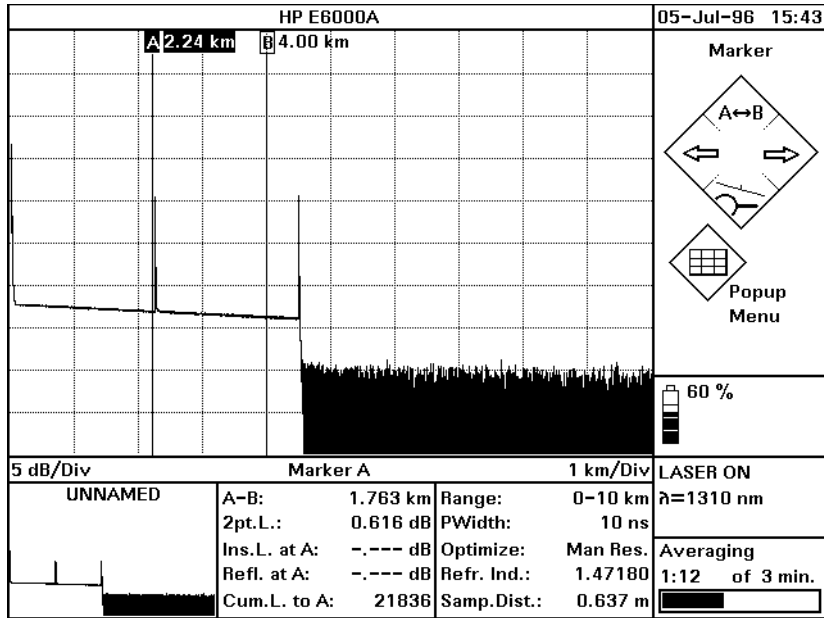

Figure D-5 Event Deadzone Test: Position Marker A
- 10** Wait until the backscatter noise is reduced (about 10 s), then position marker A close to the beginning of the first reflection after the front reflection. See Figure D-5.